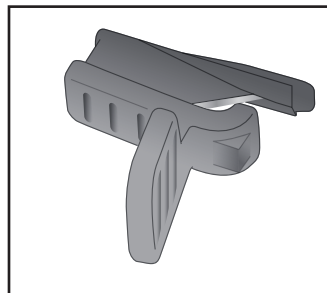

Figure 17
- Replace Blade. (See Figure 17)